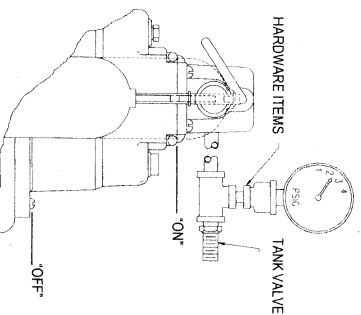

FIGURE 2
- (5) Replace guard and install a new gasket. Reattach wires as noted in (2) above. See wiring diagram. Place cover over gasket and start the four (4) screws at (A) and tighten uniformly (22 inch pounds). **NOTE:** Make sure wires are not between the gasket, cover or motor shell.
- (6) Pressure test switch cavity at 2 to 3 PSI. (See Fig. 2) Look for air bubbles under water at the gasket, (A), screw heads, switch arm (B) and at cord. **NOTE:** If bubbles are seen, repairs are required. Take unit to an Authorized Service Station for repair. **(THIS TEST IS REQUIRED TO REDUCE A POSSIBLE SHOCK HAZARD.)**
- (7) If no leaks are seen in pressure test, install the new test plug provided and tighten so that two (2) threads or less are showing under the head of the plug.
- (8) Install float, float rod and guide in reverse order to #1. Without touching pump, plug unit into a grounded outlet and with an insulated tool, gently lift and lower float to test on/off operations. **UNPLUG UNIT.**
- (9) Re-install pump in pit with piping in place, plug in and test on/off levels in the sump pit by running water in same (See Fig. 2). Do not touch the unit or piping when performing this test.